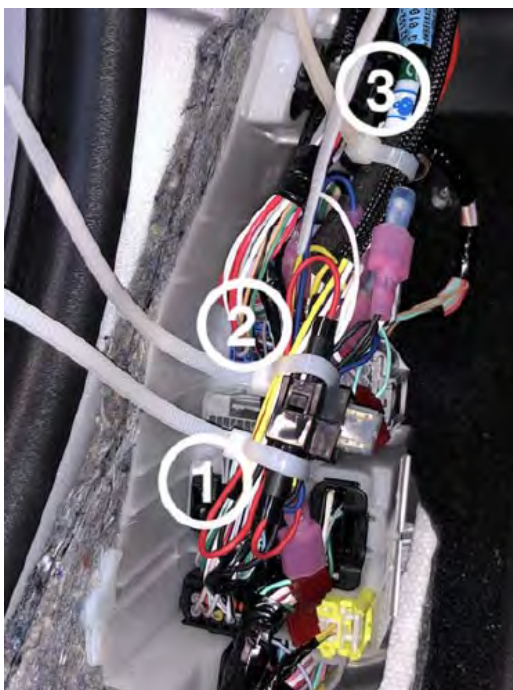

Figure 44
(b) Bundle & secure the TKP Vehicle Harness wires to the factory harness at connector JG1 with three (3) of the supplied 8" zip ties as shown. Figure 44.